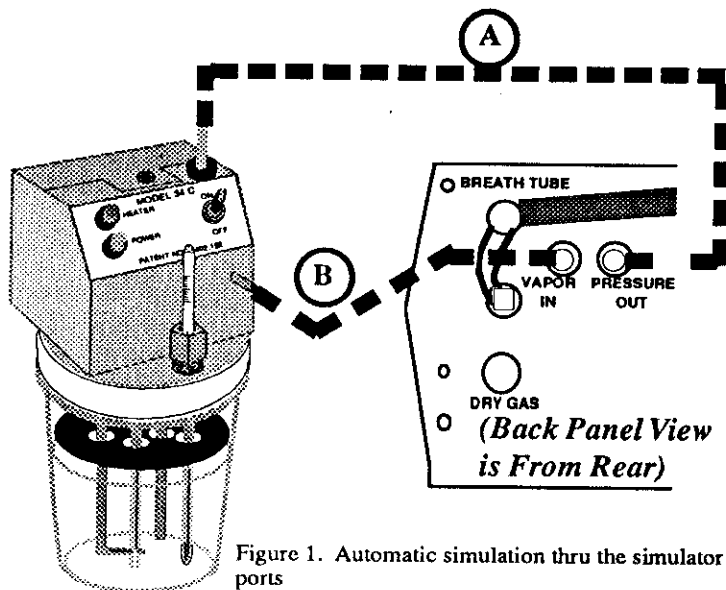

Figure 1. Automatic simulation thru the simulator ports
The use of a water and ethanol solution of specified proportions and at an exact operating temperature is used, and in most state, required by state rules, as means of certifying the correct operation of a breath test instrument. Your DataMaster allows for two modes of simulation, Automatic (figure 1) and Manual (figure 2). In both methods it is imperative that the tubing be correctly connected to the DataMaster. *If the tubing is reversed, the solution will be introduced into the sample chamber and can result in permanent damage to the instrument requiring major repairs.* In the event this happens, it is imperative that the problem be corrected immediately. Allowing the solution to remain in the sample cell for longer than several hours will cause damage. See the "Emergency" note on the Page entitled "Tubing Diagram" for instructions.
4. Connect the "Pressure Out" port of the Data-Master to the input of the simulator ("A" in figure 1, above). Connect the "Vapor In" port of the DataMaster to the output of the simulator ("B" in figure 1, above). *Keep all tubing lengths as short as possible.*